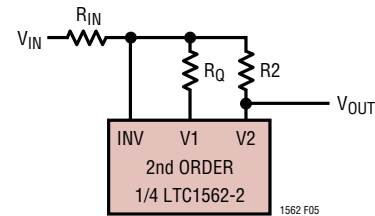
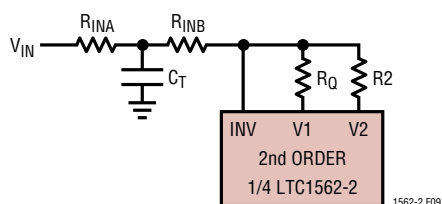

Figure 5. Basic Lowpass Configuration
Figure 9. Lowpass “T” Input Circuit
When Z_{IN} of Figure 3 is a resistor of value R_{IN} , a standard 2nd order lowpass transfer function results from V_{IN} to V_2 (Figure 5):
- Lowpass response (resistor input, V2 output, Figure 5) with $f_0 < 200\text{kHz}$
The virtual ground INV input in the Operational Filter block provides a means for adding an “extra” lowpass pole to any resistor-input application (such as the basic lowpass, Figure 5, or bandpass, Figure 6a). The resistor that would otherwise form Z_{IN} is split into two parts and a capacitor to ground added, forming an R-C-R “T” network (Figure 9). This adds an extra, independent real pole at a frequency: